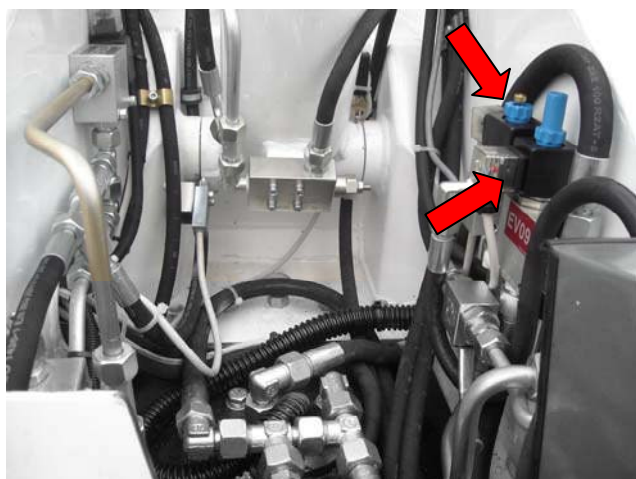

Fig. 3.24
- inside the turntable fig. take of the lead at the valve Fig. 3.24 marked with EV9 and unscrew the blue cap.